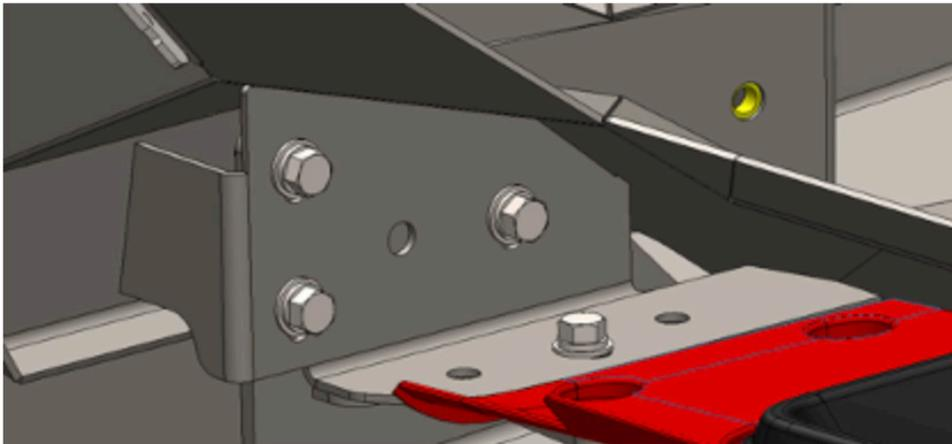

Figure 19
16. Install the vicowl onto the brackets from step 13 using the provided eight (8) 3/8" hex head bolts with flat/lock washers. Adjust the rubber bump stops from step 15 until they touch the windshield frame. Tighten all mounting hardware. Figure 19.